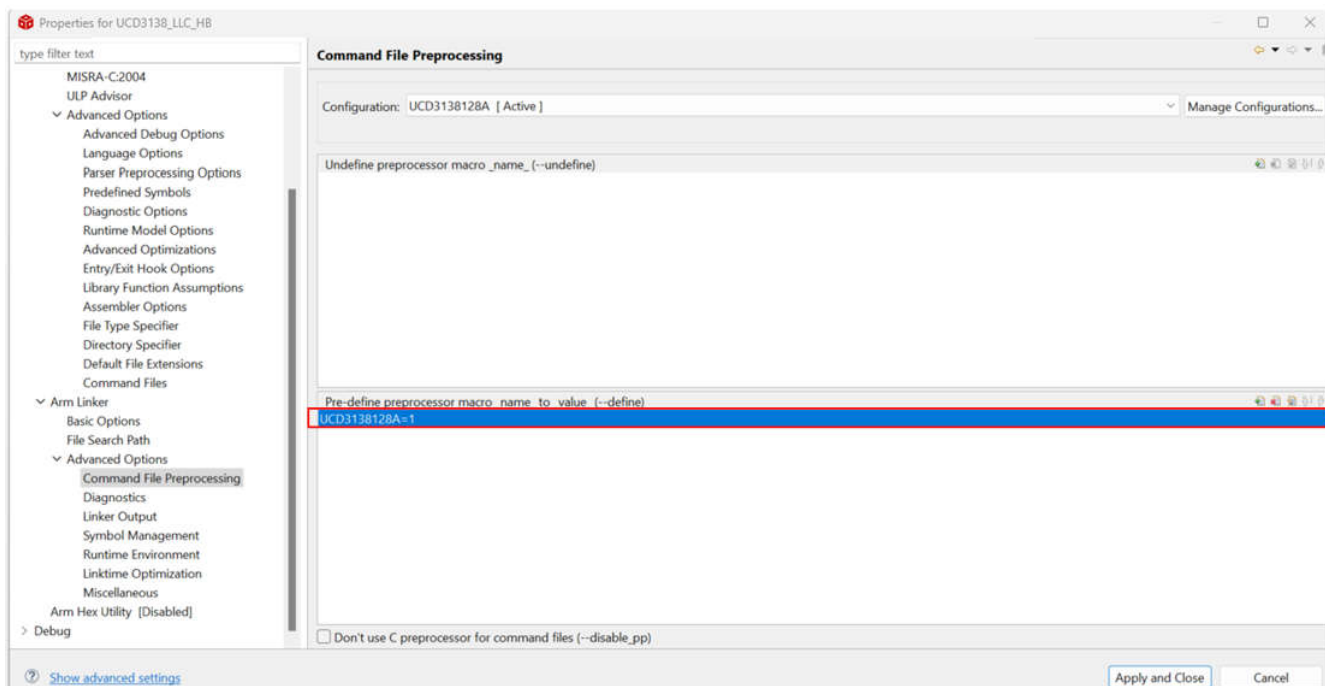

图 2-12. correct Pre-define preprocessor for Arm Linker
- 正确的 Pre-define symbols。点击 *project explorer pane* -> 右击 *project name* -> *properties* -> *build* -> *ARM Linker* -> *Advanced Options* -> *Command File Preprocessing* -> *Pre-define*., 如图 2-12 设置 UCD3138128A=1。